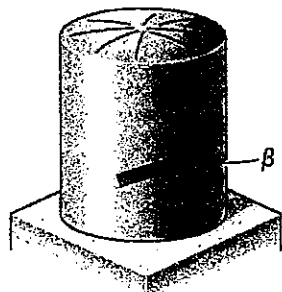

Fig. 3
- A single strain gauge forming an angle  $\beta = 15^\circ$  from a horizontal plane is used to determine the gage pressure in the cylindrical steel tank shown in Figure 3. The cylindrical wall of the tank is 6 mm thick, has a 600-mm inner diameter, and is made of a steel with the modulus of elasticity  $E = 200 \text{ GPa}$  and  $\nu = 0.3$ . Now the strain gage reading is  $280 \times 10^{-6}$ :